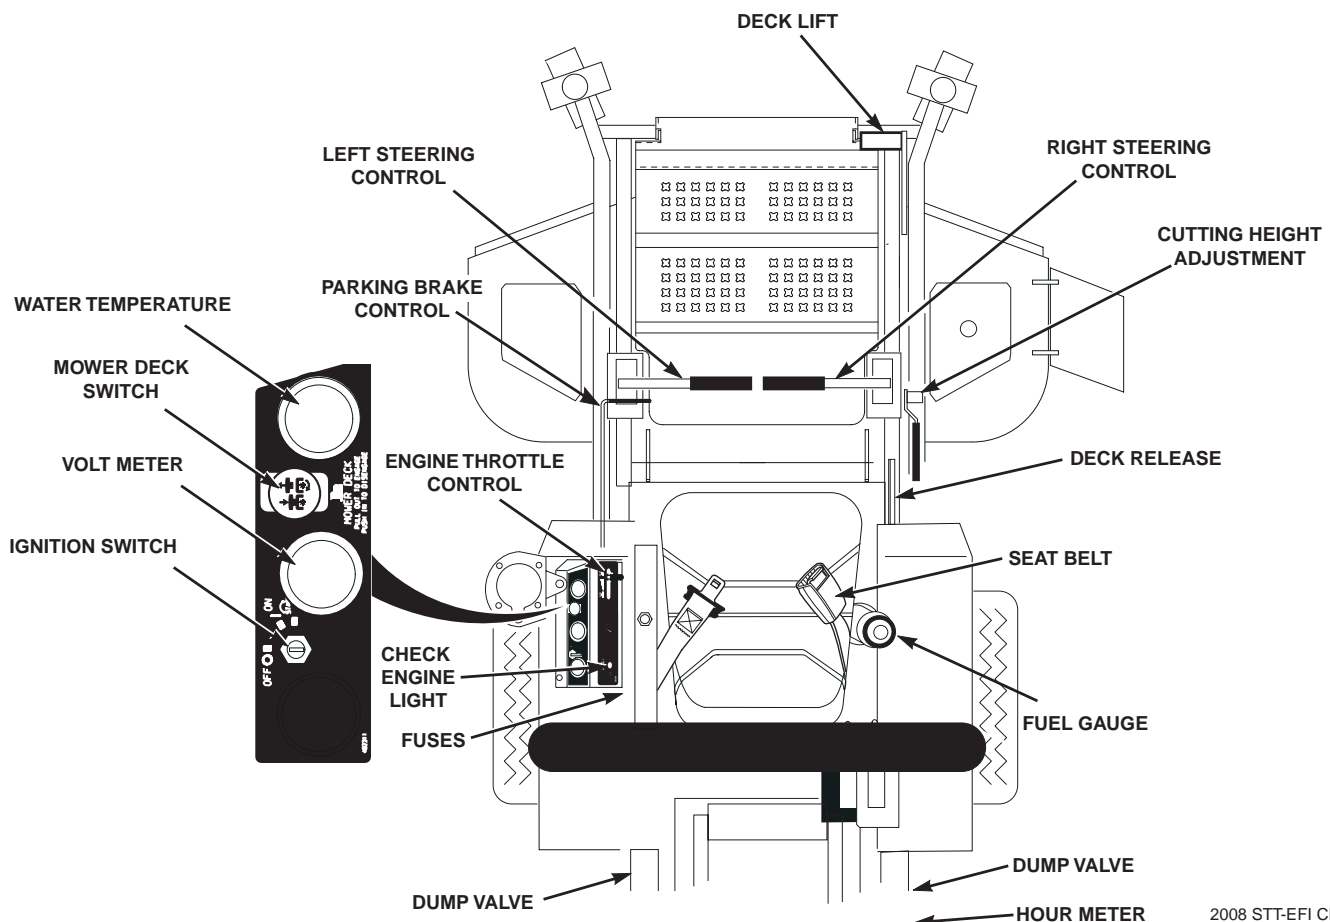

Figure 4-1. Controls and Instruments
- 1. Ignition Switch (Figure 4-1).** The ignition switch is used to start the engine and has three positions; OFF, ON, and START.
- 2. Mower Deck Switch (Figure 4-1).** Used to engage and disengage the mower drive system. Pulling up on the switch will engage the deck drive. Pushing down on the switch will disengage the deck drive.
- 3. Engine Throttle Control (Figure 4-1).** Used to control the engine speed. Pushing the lever forward increases engine speed. Pulling the lever back decreases engine speed. Full back position is the IDLE position. Full forward is the cutting position.
- 4. Volt Meter (Figure 4-1).** Indicates the condition of the charging system. When the engine is running the needle should be toward the positive end of the meter. If the needle is toward the negative end of the meter, this indicates a discharge condition and the machine should be taken in for service.
5. **Hourmeter (Figure 4-1).** Indicates the number of hours the engine has been operated. It only operates when the engine is running. Has preset maintenance reminders for engine and hydraulic system oil changes. Will start flashing scheduled maintenance 2 hours before preset time and continue flashing until 2 hours after. Automatically resets.
6. **Fuse Holders (Figure 4-1).** Two 20-amp fuses protect the mower's electrical system. To replace fuses, pull fuse out of the socket and install a new fuse.
7. **Left Steering Control (Figure 4-1).** Used to control the mower's left wheel when traveling forward or reverse.
8. **Right Steering Control (Figure 4-1).** Used to control the mower's right wheel when traveling forward or reverse.
9. **Parking Brake Control (Figure 4-1).** Used to engage and disengage the parking brakes. Pull the lever back to engage the parking brakes. Push the lever forward to disengage the parking brakes.
10. **Fuel Tank Gauge (Figure 4-1).** Indicates the amount of fuel in the fuel tank.
13. **Cutting Height Adjustment (Figure 4-1).** Used to set the cutter deck at the desired cutting height.
14. **Deck Release Lever (Figure 4-1).** Used to lock the cutter deck in the transport position. Push the foot pedal forward and pull back on the release lever to release the cutter deck for normal mowing.
15. **Temperature Gauge (Figure 4-1).** Indicates the operating temperature of the engine. Used on mowers with the liquid-cooled engine only.
16. **Check Engine Light (Figure 4-1).** Indicates the operation of the Kohler Electric Fuel Injection (EFI). If a problem occurs with the engine, the light will flash a code. See your authorized Scag Dealer for diagnosis and repair.
17. **Seat Belt (Figure 4-1).** Used to secure the operator. Seat belt must be worn at all times when the ROPS is in the upright and locked position.
18. **Seat Hold Down Release Latch (Figure 4-1).** Located behind the seat. Used to secure the seat in the operator's position. Release the latch to gain access under the seat.
12. **Deck Lift Foot Lever (Figure 4-1).** Used to raise and lower the cutter deck. Push full forward to lock in the transport position.